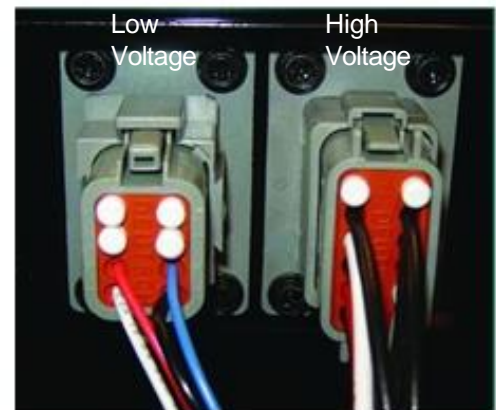

Figure 5.7 Deutsch Plugs
4. Unplug the low and high voltage Harness Connectors (Deutsch plugs) from the terminal box. (figure 5.7) *